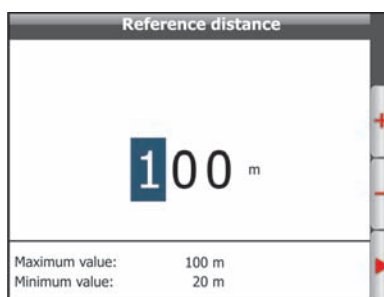

Fig. 193
- The screen in Fig. 193 will be automatically displayed: enter the **Reference distance** to be covered and press **OK**. The message will be displayed **Drive trough setted distance and press OK key**